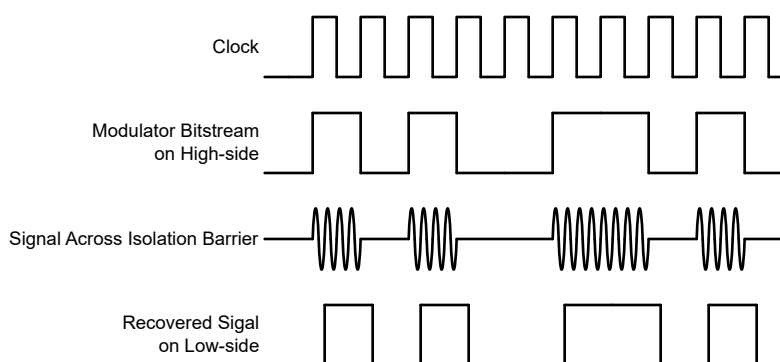

Figure 7-3. OOK-Based Modulation Scheme
The AMC3336-Q1 uses an on-off keying (OOK) modulation scheme, as shown in Figure 7-3, to transmit the modulator output bitstream across the SiO₂-based isolation barrier. The transmit driver (TX) illustrated in the Functional Block Diagram transmits an internally generated, high-frequency carrier across the isolation barrier to represent a digital *one* and does not send a signal to represent a digital *zero*. The nominal frequency of the carrier used inside the AMC3336-Q1 is 480 MHz.
Figure 7-3 shows the concept of the on-off keying scheme.